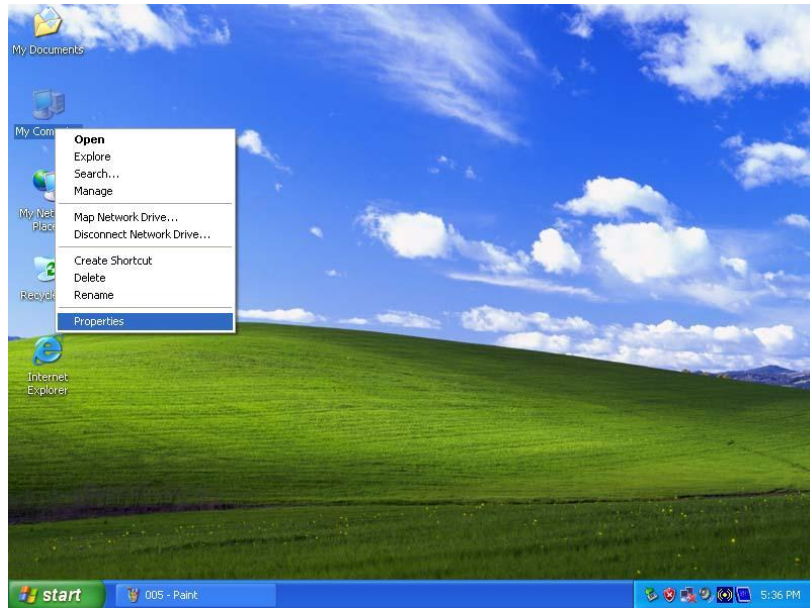

Figure 1.1
1.1 Under “My Computer”, Right click the mouse key and go into Properties. See Figure 1.1